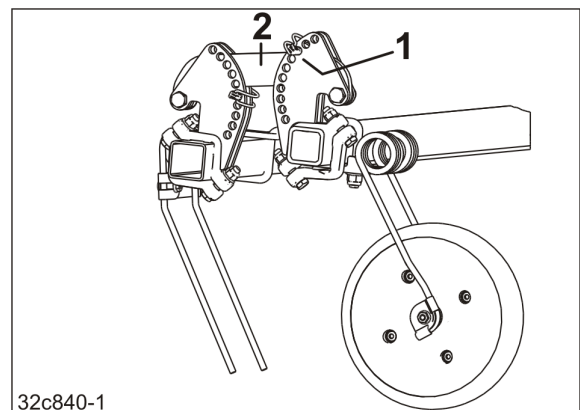

Fig. 196
3. The working depth of the harrow tines is adjusted by repositioning the safety pin for the tube (Fig. 196/1)
- o above the link (Fig. 196/2),
The lower the safety pin for the tube (Fig. 196/1) is inserted in the adjusting segment, the greater the working depth.